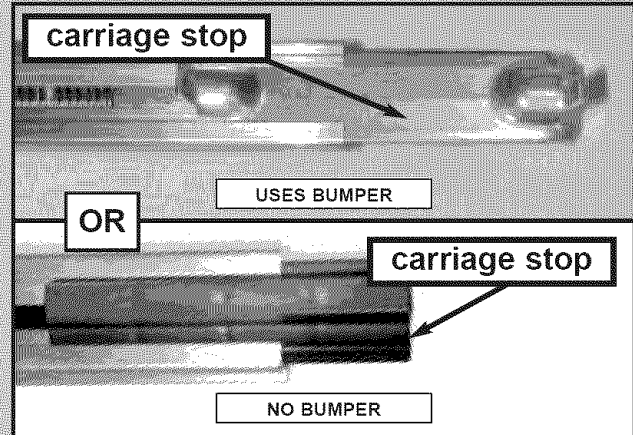

Fig. 1-13
- With bent tabs facing up, slide carriage stop into rail. **Fig. 1-13.**